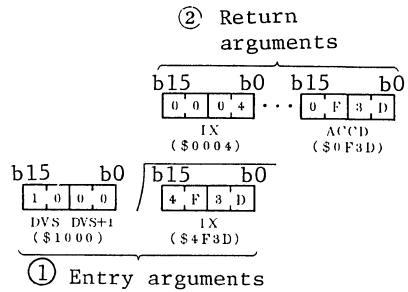

Fig. 1 Example of DIV execution
- (b) Fig. 1 shows example of DIV execution.
If entry arguments are as shown in part ① of Fig. 1, division result is contained in IX and ACCD as shown in part ② of Fig. 1.